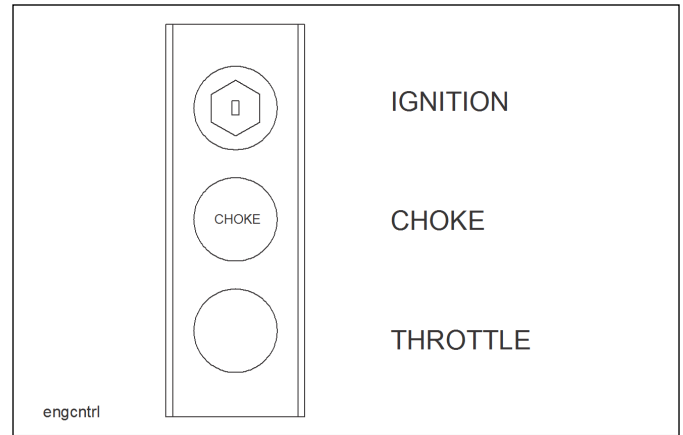

Figure 3-9: Engine Control Panel
2. The Engine Ignition Switch, Choke and Throttle are on the Engine Control Panel mounted on the drivers side of the engine package (See Figure 3-9.)
3. The **HYDRAULIC POWER SUPPLY ENGINE THROTTLE** controls the speed at which the engine operates (See Figure 3-9.) It is a variable position control: